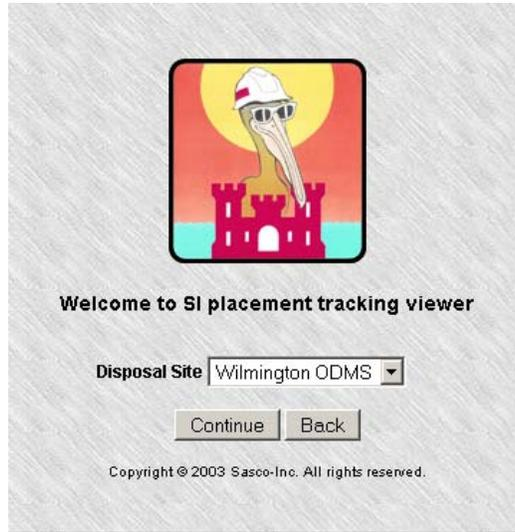

Figure 4.2 Disposal Site Menu
2. Enter *ssi* for both the public username and password. Select the corps district from the pull-down menu. Enter the date in the *start date* dialog box in the format *mm/dd/yyyy* and select the number of days back from that starting date. For example, entering 10/25/2003 as the start date and 3 for the value in days back will bring up placement tracking data for 10/23/2003, 10/24/2003, and 10/25/2003. Click *continue*. A menu that lists the disposal sites for the corresponding information will appear as shown in Figure 4.2.